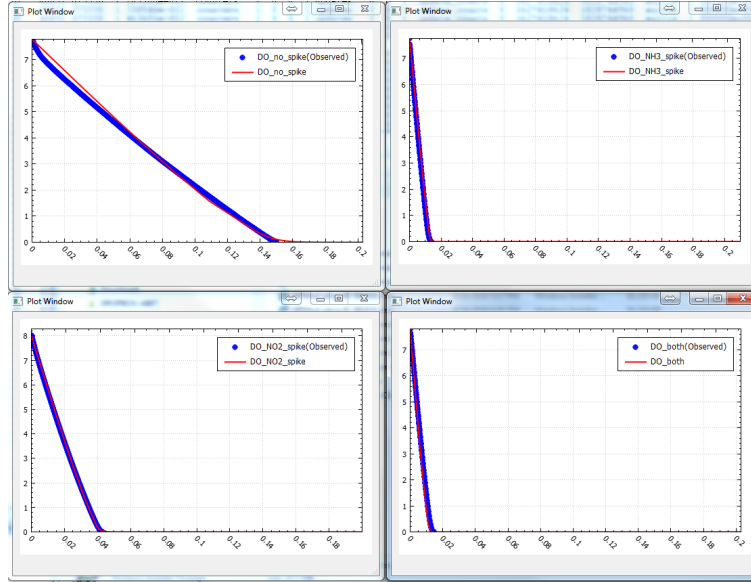

Figure 5.7: Observed and predicted DO variation in all four experiments
14. **Checking the model vs. observed agreement:** Right-click on **Project Explorer**→**Inverse Modeling**→**Observations**→*DO\_nospike* and choose **Plot modeled data**. A graph will appear that will show observed data and the model prediction based on the estimated parameters. Do the same for other observation data (Figure 5.7).